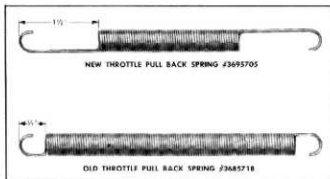

Fig. 97—Throttle Pull Back Springs
3. Be sure that accelerator pull back spring, part No. 3695705, is used. Early 1950 production models used pull back spring, part No. 3685718. Figure 97 shows how the springs may be identified.